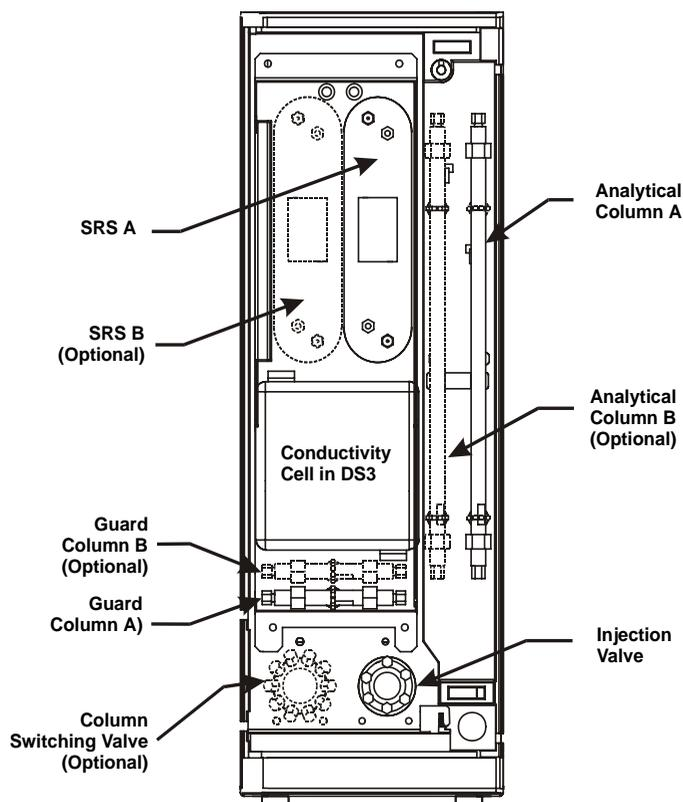

Figure B-23. Chromatography Compartment Layout for Conductivity Detection
1. The SRS mounts on tabs in the compartment. For mounting locations, see Figure B-21 (for the thermal compartment) or Figure B-23 (for the chromatography compartment).
1. See Figure B-23 for the DS3 mounting location in the chromatography compartment.